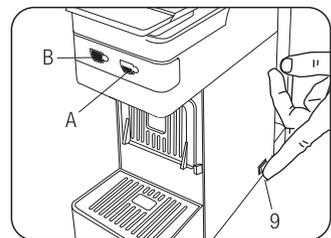

Fig.4
- Power the coffee machine by turning on the main switch (9) (Fig.4)
- Buttons (A) and (B) will start to flash; after about a minute the lights remain permanently on and the machine is ready for use (Fig.4)